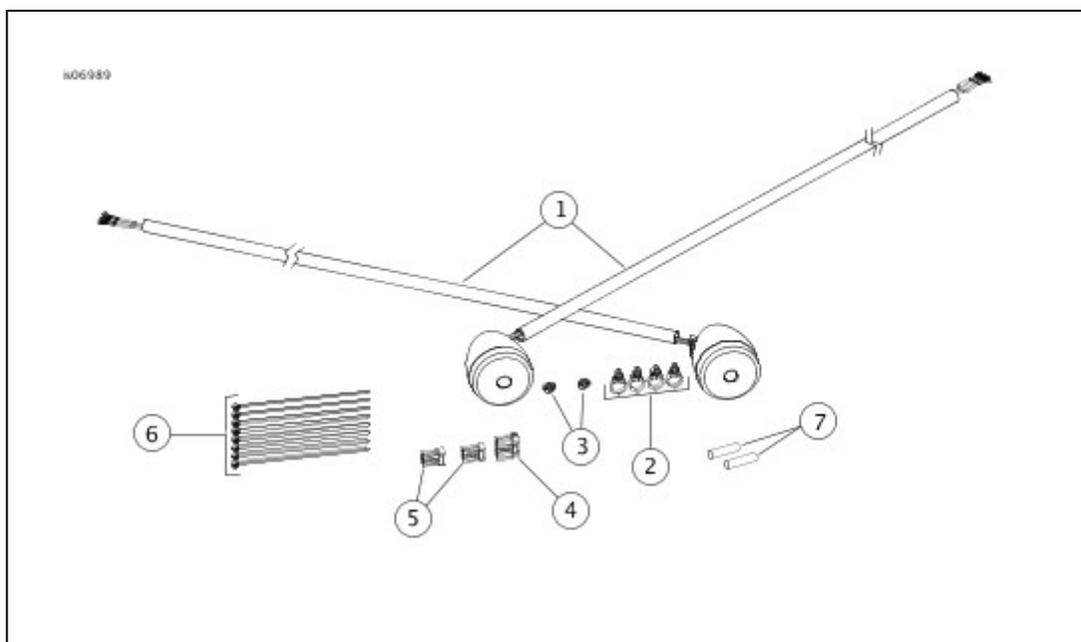

Figure 2. Service Parts: LED Front Turn Signals
See **Figure 2** and **Table 1**.
1. **ALL models:** See **Figure 2**. Obtain the **new** left- and right-front turn signal lamps from the kit.